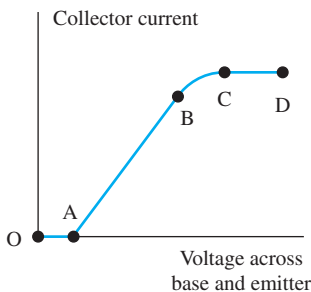

FIGURE P8.36 Collector current and the base-emitter voltage curve.
- 8.36 (B) Figure P8.36 shows the relationship between the collector current and the base-emitter voltage of a transistor. Provide the name of each region, OA, AB, BC, and CD.